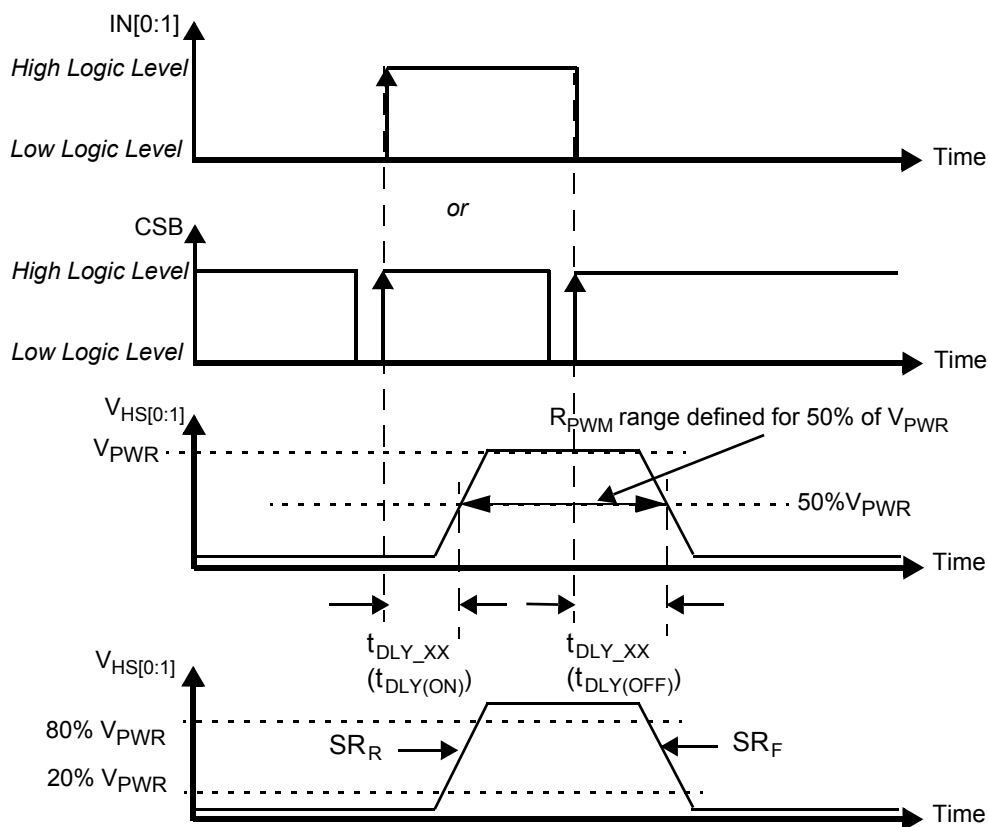
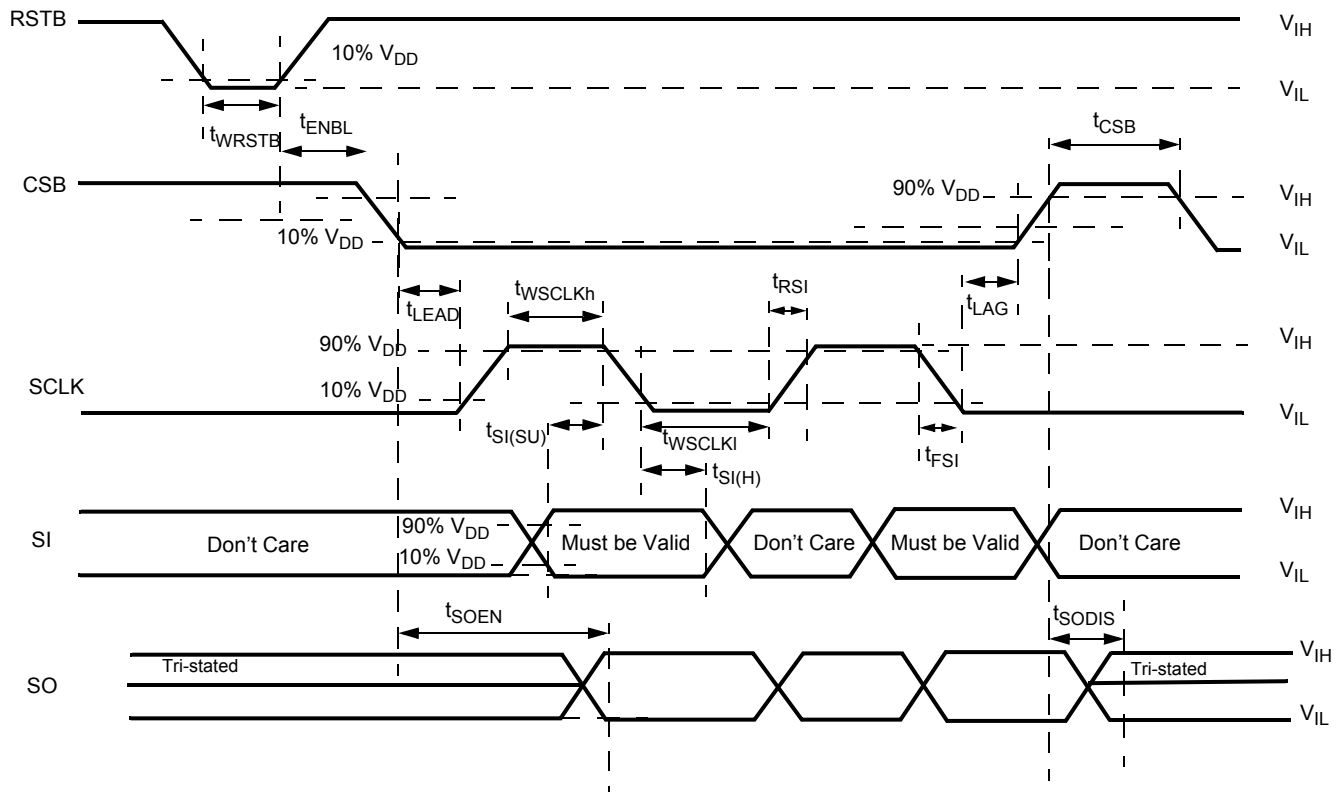
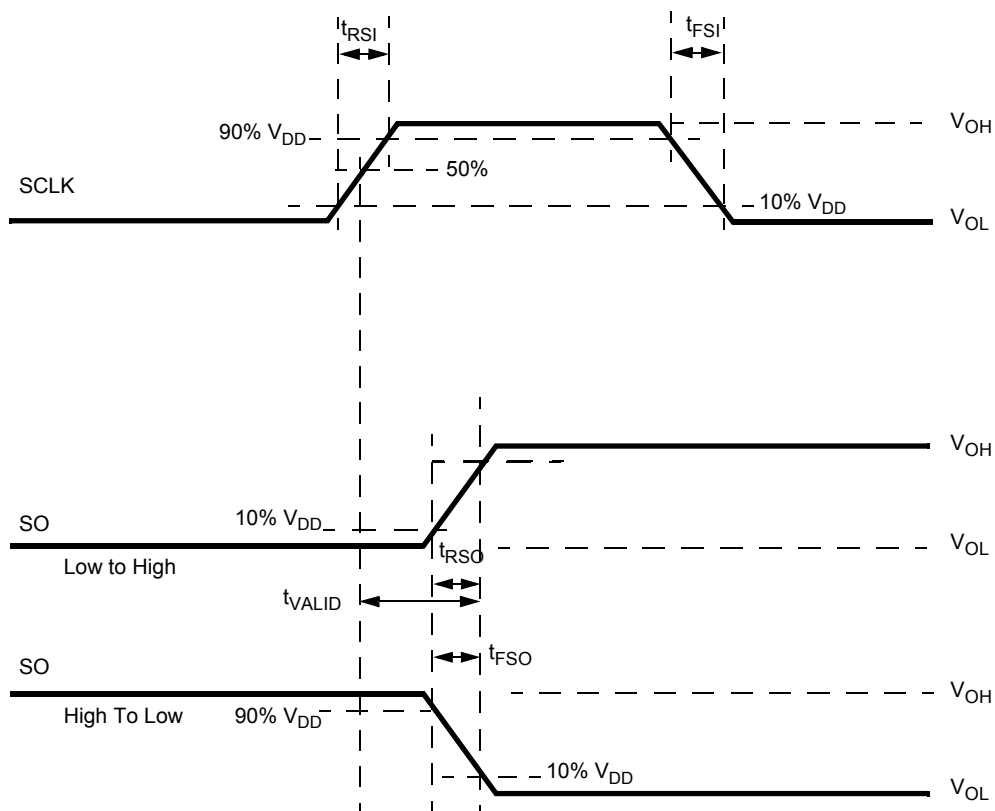

Figure 4. Output Voltage Slew Rate and Delay
Figure 7. Timing Requirements During SPI Communication
Figure 8. Timing Diagram for Serial Output (SO) Data Communication
27. Rising and Falling edge slew rates specified for a 20% to 80% voltage variation on a 10.0 Ω resistive load (see Figure 4).
29. Time required to switch off the channel after detection of over-temperature (OT), over-current (OC), SC or UV error (time measured between start of the negative edge on the FSB pin and the falling edge on the output voltage until $V(HS[0:1]) = 50\%$ of V_{PWR}).
30. Settling time ($= t_{CSNSVAL_XX}$), SYNC output signal delay ($= t_{SYNCVAL_XX}$) and Read-out delay ($= t_{SYNREAD_XX}$) are defined for a stepped load current ($100\text{ mA} < I(Load) < IOCLX A$ FOR $CSNS_RATIO_S = 1$, AND $300\text{ mA} < I(Load) < IOCLX A_0$ FOR $CSNS_RATIO_S = 0$). (see Figure 8 and Output Current Monitoring \(CSNS\)).
edge of CSB. The SO output driver is enabled when CSB is logic [0]. CSB should transition from a logic [1] to a logic [0] state only when SCLK is at logic [0] (Figure 7 and Figure 8). CSB is internally pulled up to V_{DD} through I_{UP} .
Serial input (SI) data bits are shifted in at this pin. SI data is read on the falling edge of SCLK. 16-bit data packages are required on the SI pin (see Figure 7), starting with bit D15 (MSB) and ending with D0 (LSB). All the internal device registers are addressed and controlled by a 4-bit address (D9-D12) described in Table 10. Register addresses and function attribution are described in Table 11. The SI pin is internally connected to a pull-down current source, I_{DWN} .